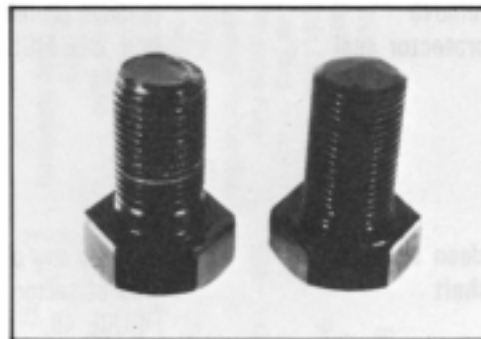

Figure 51
**NOTE:** These bolts are special because they are equipped with either a ring or washer design on the underside of the head. SEE FIGURE 51. If you replace one or more bolts, you must use bolts of either design and of the SAME SPECIAL TYPE AND LENGTH AS THOSE YOU REMOVED. Do not use a substitute. You can get these bolts through your OEM parts distributor.